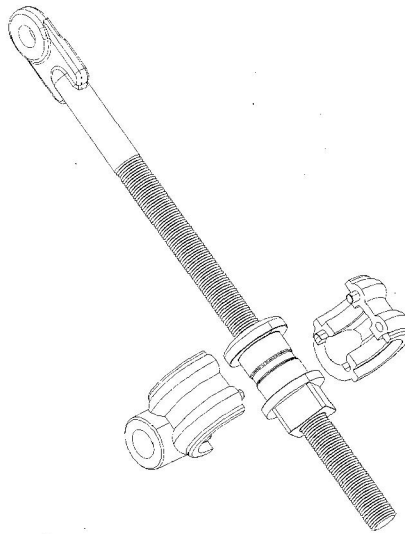

Figure 1
Step 1: The *Fine Elevation Assembly* consists of the Fine Elevation Rod, Housing, and a Fine Elevation Adjuster. To form the Fine Elevation Assembly, screw the Fine Elevation Rod into the Fine Elevation Adjuster and position the Housing around the Fine Elevation Adjuster (**fig 1**).